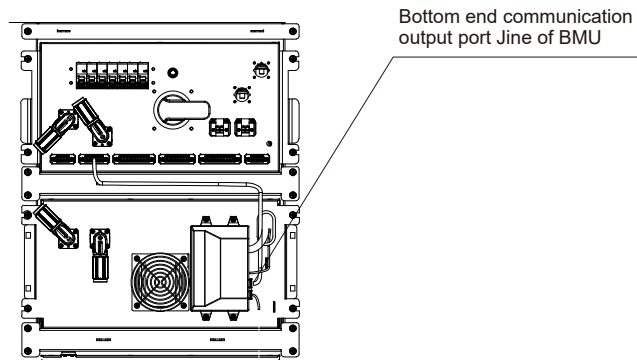

Figure 2.6
(3) This is the connection method for the communication input and output ports of the first BMU. The connection method for each subsequent BMU's communication input and output ports is the same as that of the first BMU. Note: The upper end of the BMU communication power supply cable is the communication input port line (link input port), and the lower end of the BMU communication power supply cable is the output port line (link output port). (Figure 2.6).